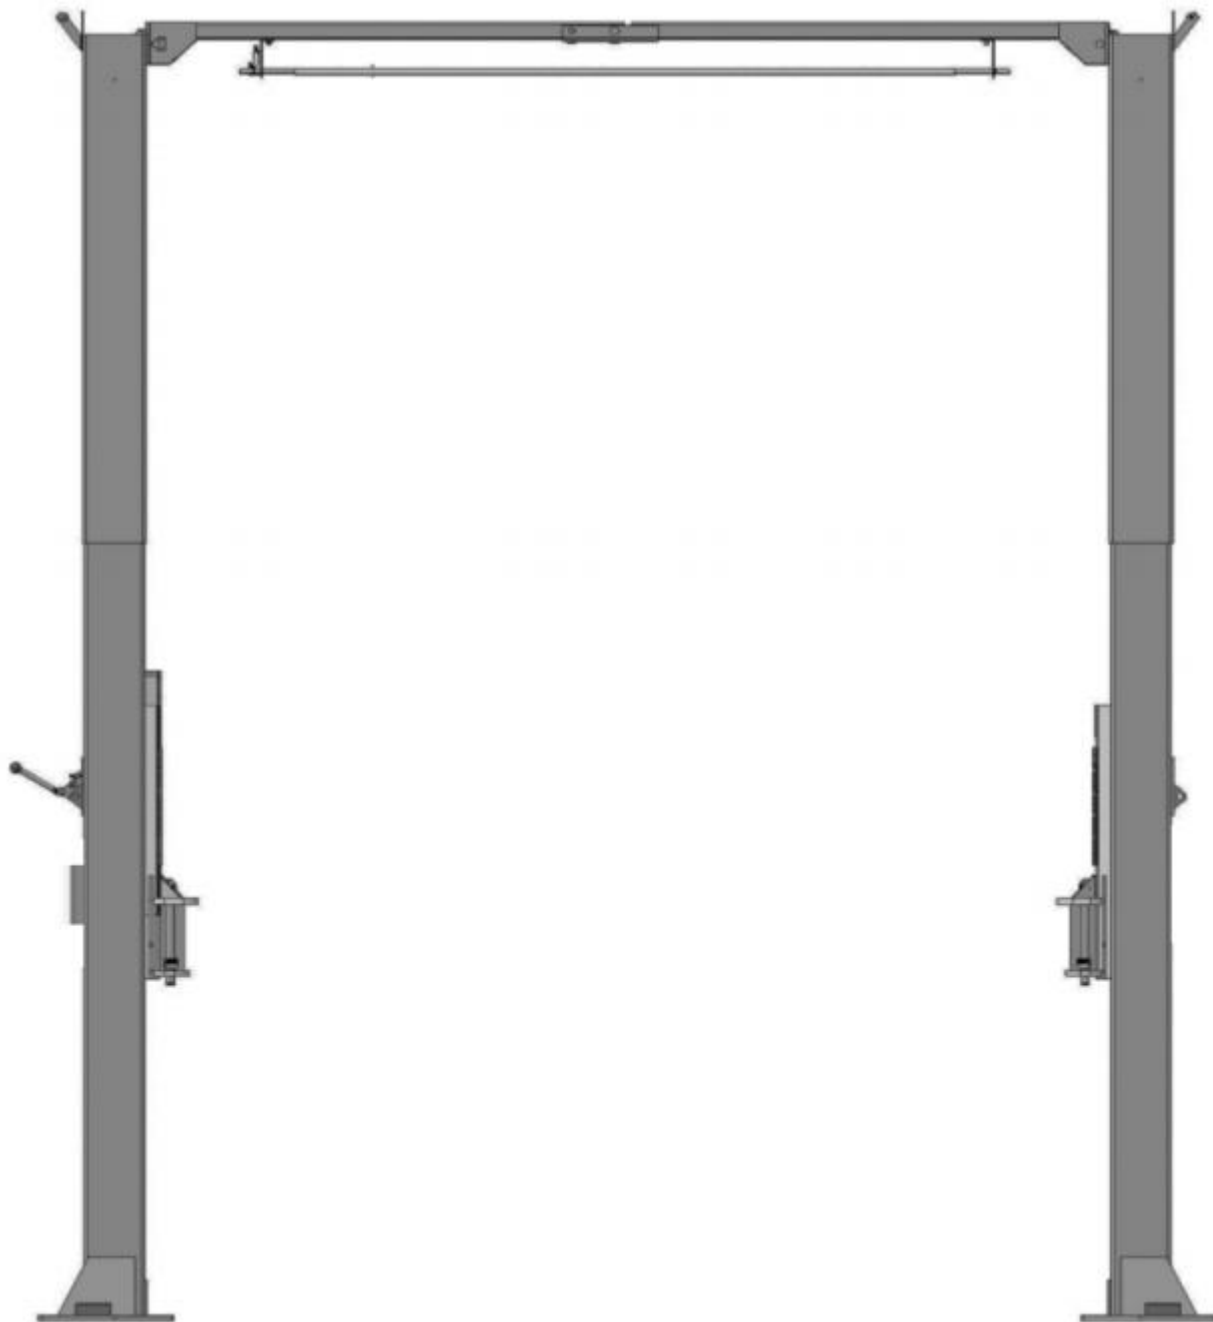

Fig. 26
K. Raise the carriages up by hand and make them be locked at the same level (See Fig. 26).